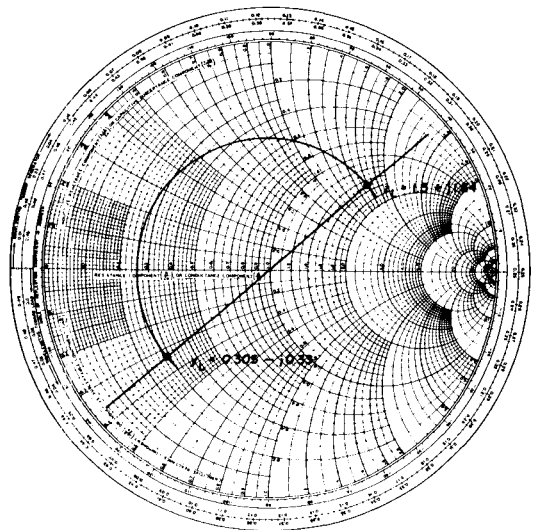

fig. 8. Calculating load admittance (example 4).
**Example 4.** Calculating load admittance. The impedance of a load terminating a 50-ohm transmission line is  $75 + j82$  ohms. What is the admittance of the load? (See **fig. 8.**)